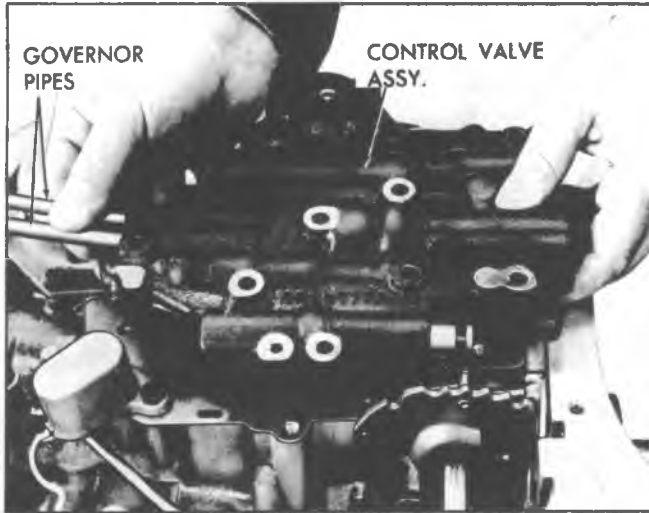

Fig. 7A-10C—Removing Control Valve Assembly and Governor Pipes from Case
2. Remove control valve assembly and governor pipes (Fig. 7A-10C). Do not drop manual valve.